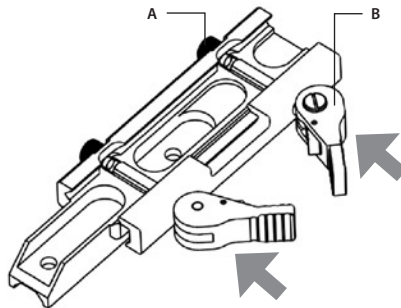

FIGURE 3-6. CLAMPING DEVICE ADJUSTMENT
2. With the clamping device unlocked (as shown in Figure 3-6), push the cam (B) towards the arrow, which will cause the nut (A) to slide out of its hole.
- To tighten/ loosen the clamping device, push down on the cam (B) and turn the nut (A) CW/ CCW respectively, in one-two increments (see note below). Much like when the cam (B) is released, backward-moving springs will cause the nut (A) to slide back into its hole.